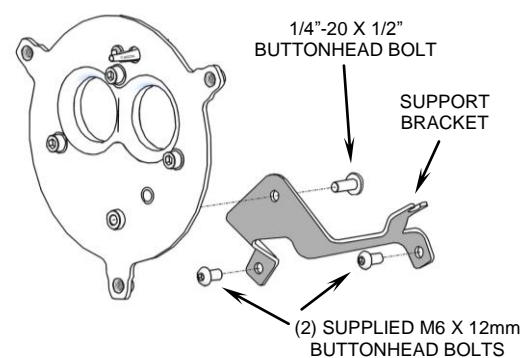
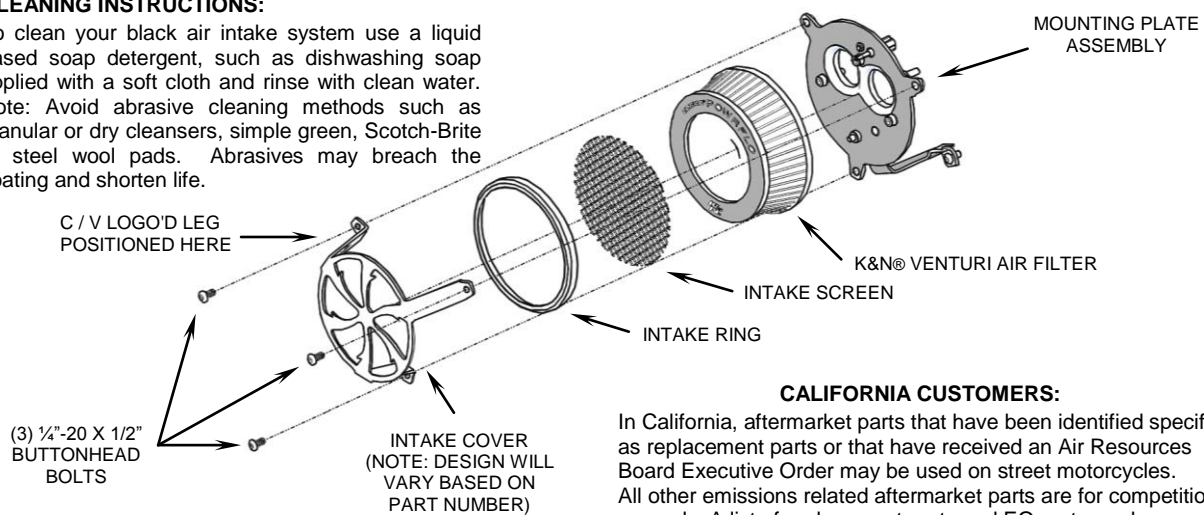

FIGURE 4
FIGURE 5
- Install the supplied support bracket to the two threaded bosses near the base of the cylinders using the (2) supplied M6 x 12mm buttonhead bolts. Secure the support bracket to the mounting plate using (1) supplied 1/4"-20 buttonhead bolt, and finger tighten. See Figure 4.
- Fully tighten the (3) M6 x 25mm allen bolts, from Step 7, followed by the support bracket bolts, from Step 8.
- Insert the round intake screen into the black ring so the screen sits inside the edge of the ring. Place the ring and screen between the legs of the naked black intake cover as shown in Figure 5.
- Place the naked intake cover, ring and screen assembled in Step 11, over the air filter and align each leg to the base mounting plate threaded holes. Be sure screen sits at a 45 ° angle to the bottom leg, and C/V logo'd leg is at the upper left position. Insert the (3) supplied 1/4"-20 x 1/2" buttonhead bolts through the intake cover and into the base mounting plate, see Figure 5. Double check all parts are aligned properly and tightened securely.